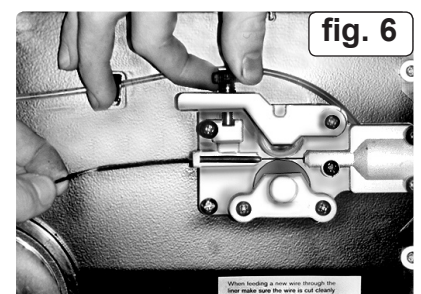

fig. 6
3.6. Setting wire tension (fig. 6)